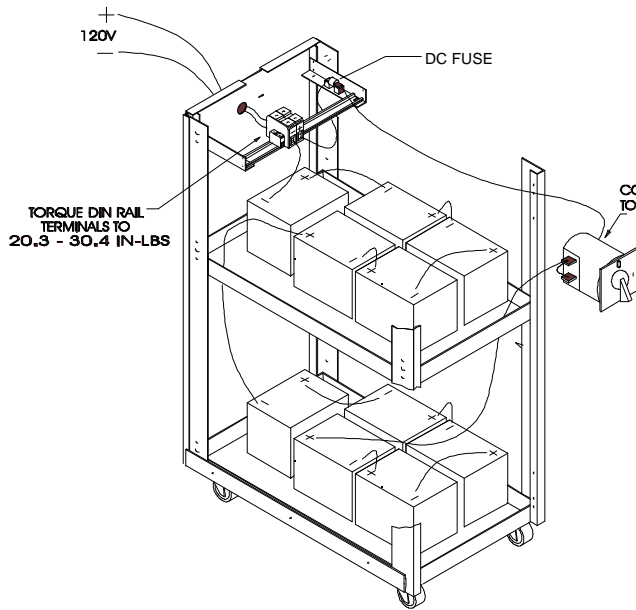
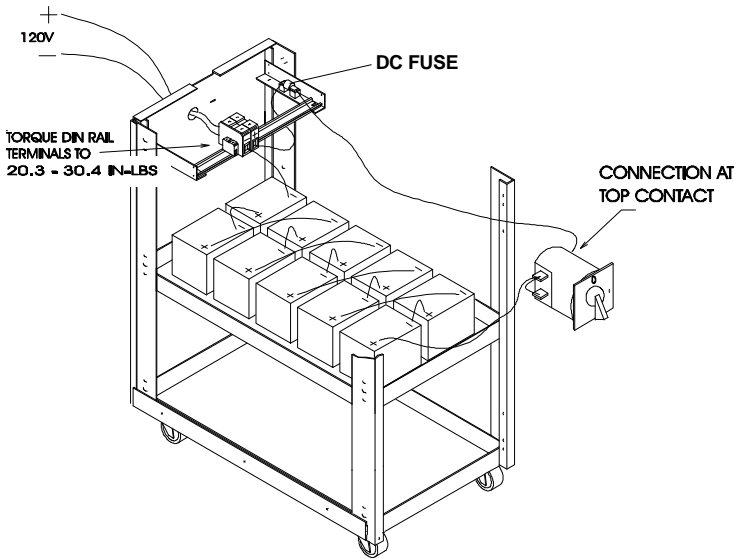
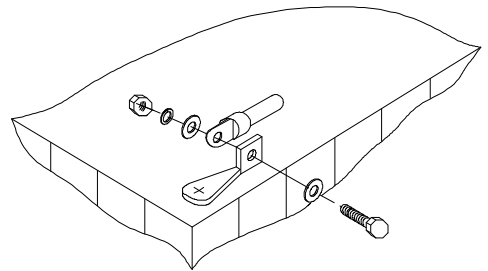

Figure 2 For units with an amp-hour rating greater than 33
Figure 3 For units with an amp-hour rating of 33 or less
Figure 4
- 401. Place the new batteries, with the terminals facing *out*, on the shelves in the battery cabinet. (See Figure 2 if your batteries amp-hour rating is greater than 33, or Figure 3 if your batteries amp-hour rating is 33 or less. These Figures are on the next page.)
402. Attach the cables between the batteries. **Do not** connect the cables to the terminal block yet. (See Figure 2 or 3 and Figure 4.)